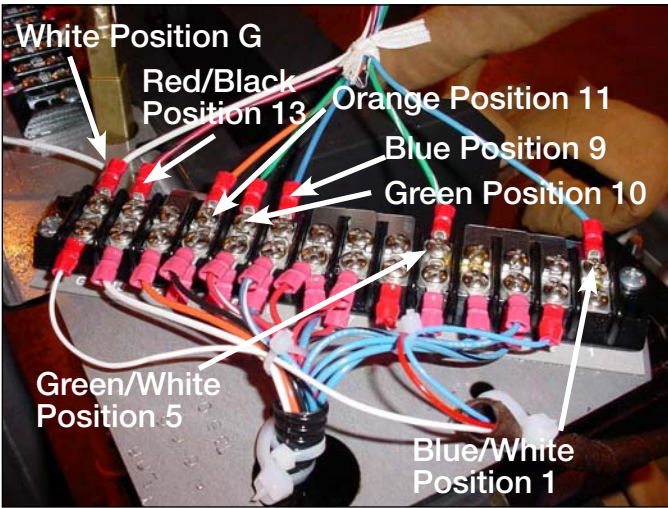

Figure 5. TCB Lead Color and Termination Points.
- Use a Phillips head screwdriver to loosen and remove the TCB terminal board leads from the 14 position terminal board located on the top right of the QD3 tap changer. See Figure 5. The lead color and termination points are as follows: